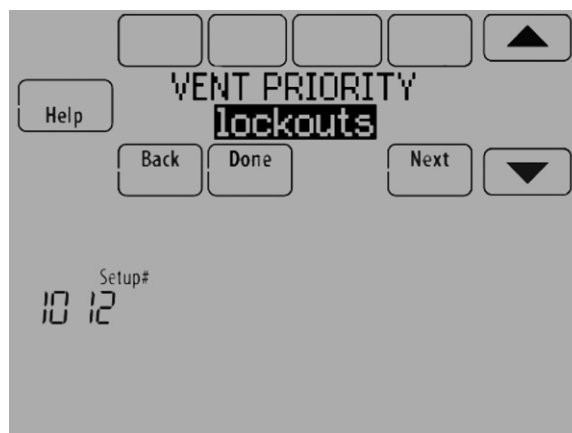

Fig. 163.
7. Select a Ventilation Priority (see Fig. 163):